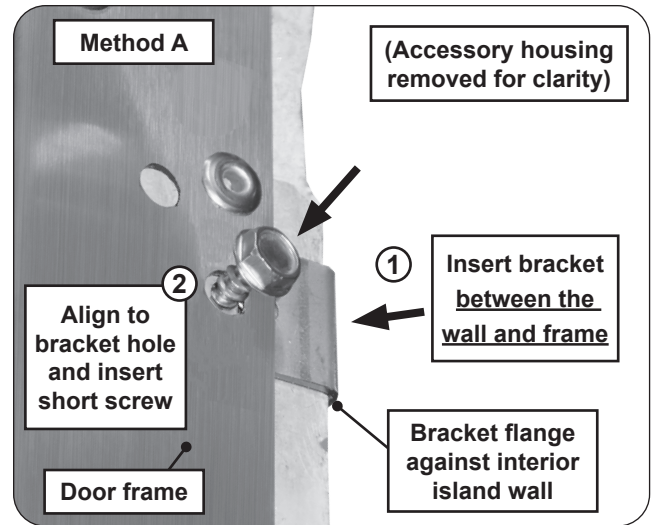
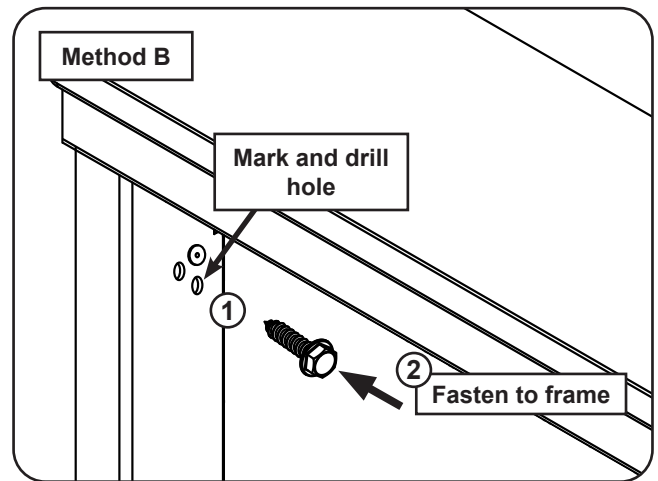

Fig. 2-1 Method A install detail
Fig. 2-2 Method B install detail
- Use the 4 open holes closest to the island interior on left and right sides of the frame to secure brackets (see Fig. 2-2). Reach from within the island and insert a bracket where a cutout exists, **between the wall and door frame**. See Fig. 2-1, step 1.
- Use the 4 open holes closest to the island interior on left and right sides of the frame to secure brackets (see Fig. 2-2). Mark the holes as needed.
- Drill pilot holes for each screw. See Fig. 2-2, step 1. It is recommended to use a #21 drill bit (0.159") to drill pilot holes.
- Insert a long hex screw and tighten with the power drill and $\frac{5}{16}$ " hex driver (see Fig. 2-2, step 2). **DO NOT OVERTIGHTEN.**